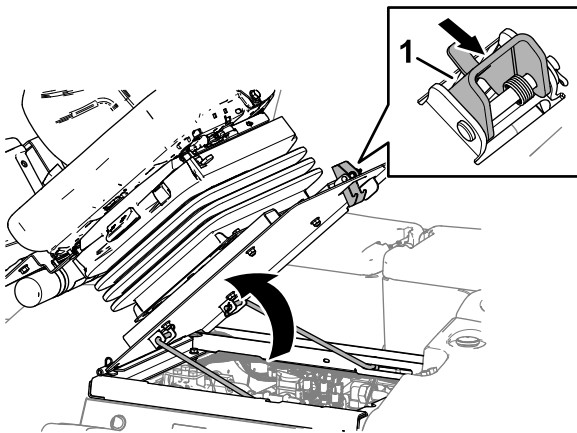

Figure 100
1. Move the seat latch outward (Figure 100).